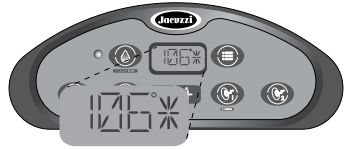

Figure 10.2a
3. When the overtemp has been activated, the asterisk after the last digit will appear as an indicator for being in the overtemp mode, Figure 10.2a.